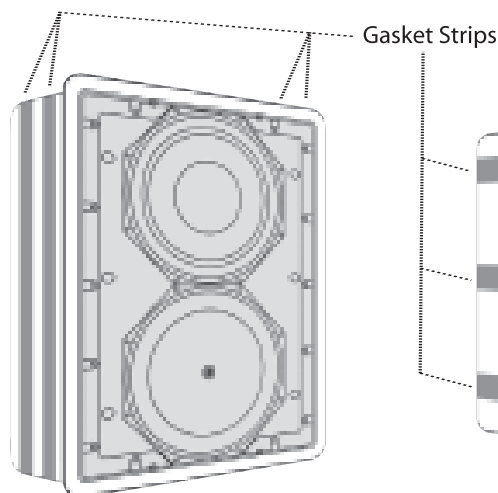
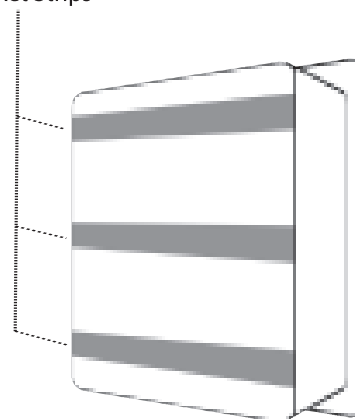

Figure 3
Figure 4
5. Before installing the speaker in the hole, apply the four long strips of gasket material to the speaker: two pieces on each side of the speaker that will come into contact with the studs. [Figure 3] Use the three shorter strips of gasket material to pad the rear of the speaker against the back of the exposed wall. [Figure 4]